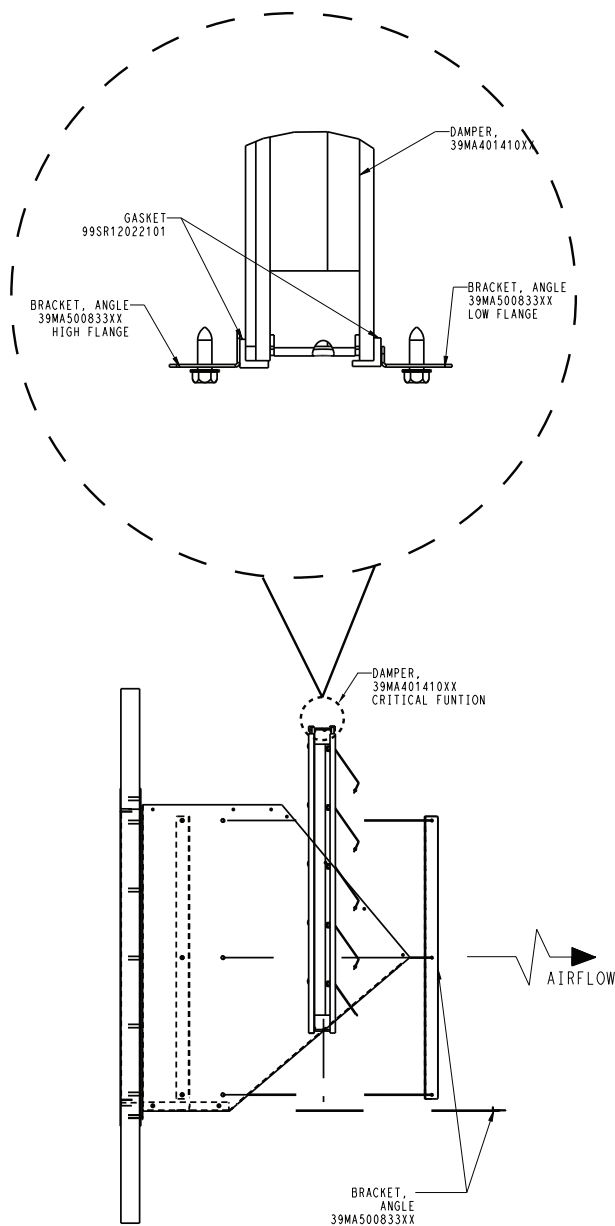

Fig. 74 — Installing the Damper
11. Install damper (if ordered) as shown in the Fig. 74. Orient damper blades to open out (in the direction of exhaust air.) Attach the 3 outer angle brackets to secure the damper to the exhaust hood using the $\frac{1}{4}$ in.-14 x $\frac{5}{8}$ in. long sheet metal screws (without neoprene washer.) After installing the 3 outer brackets, make sure the damper moves freely.